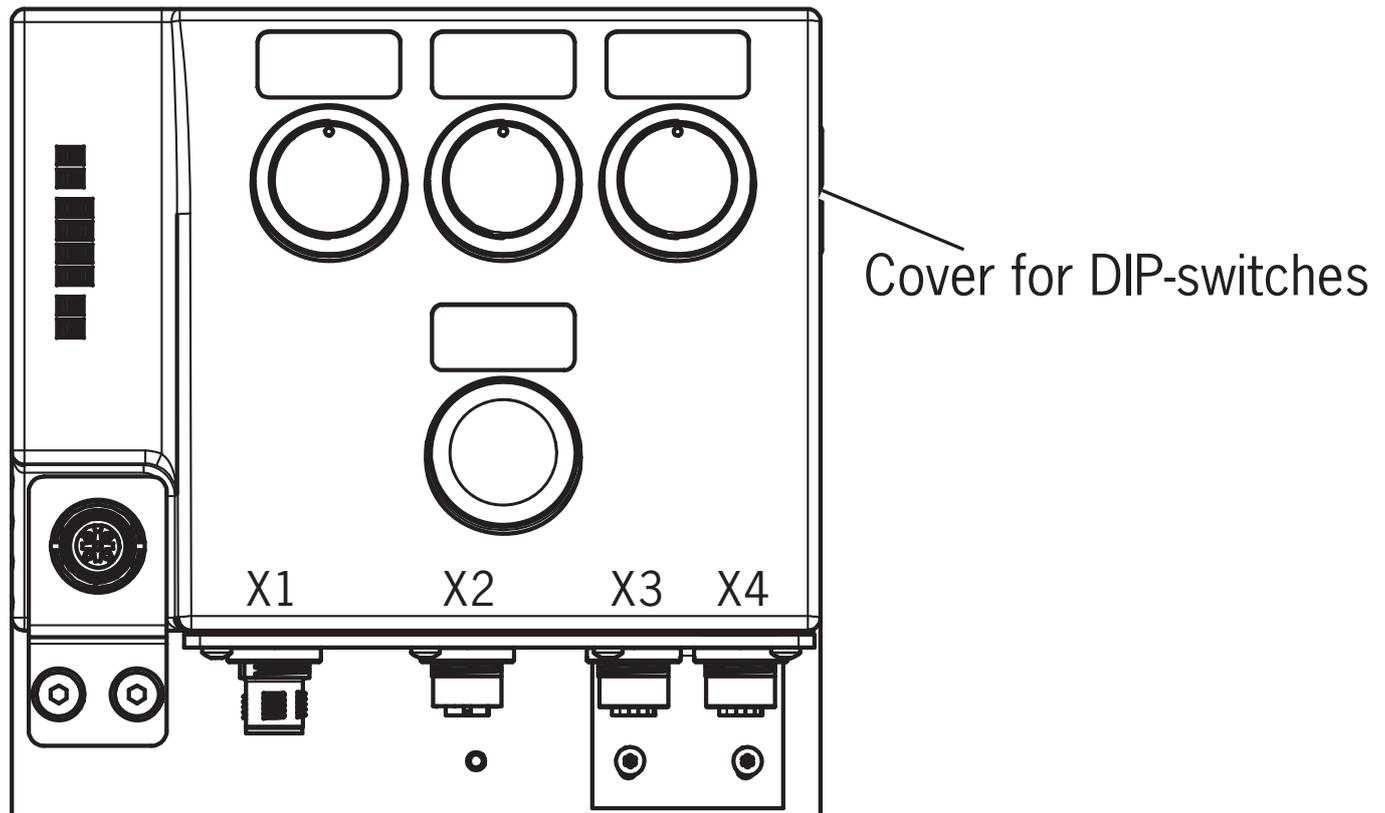

Figure 1: Position of DIP switches
4. Transfer the setting of the DIP switches to the replacement system. For this purpose, open the side cover on the MGB-EI (figure 1) and set the DIP switches on the replacement system to the value set on the original system.